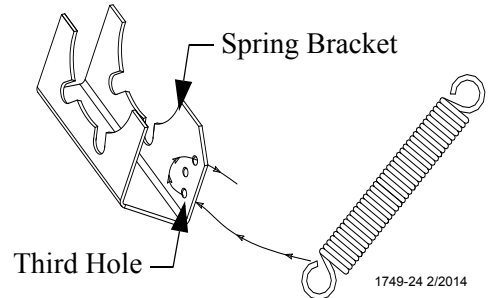

Figure 57. Spring Bracket Assembly
4. Assemble the Spring to the Spring Bracket by sliding the loop of the spring up through the third hole in the bracket, see figure 57.